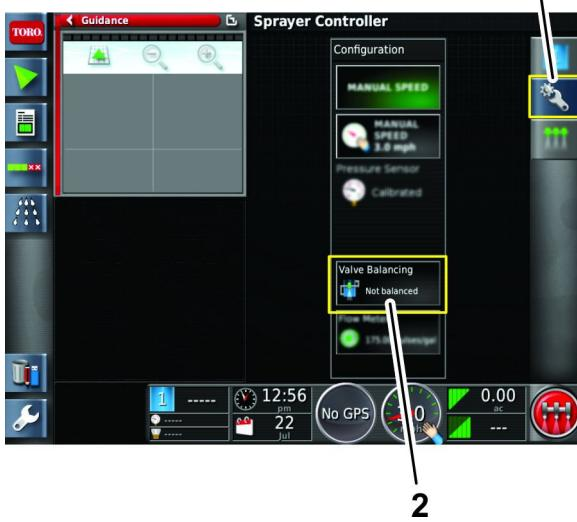

Figure 133
7. Press the configuration icon, and then press the valve balance wizard icon (Figure 133).